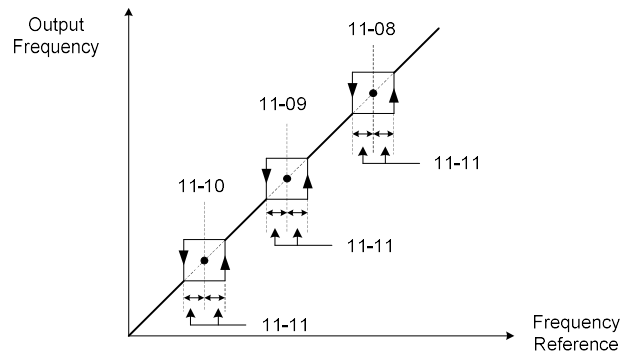

Figure 4.3.113 Frequency Jump Operation.
- The relationship between output frequency and jump frequencies is shown in Figure 4.3.113.